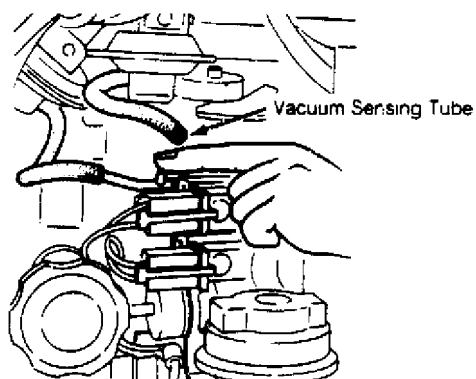

Fig. 2: Checking for Signal
1) Warm up engine to normal operating temperature. Connect a tachometer to engine. Disconnect the vacuum sensing tube (from leading vacuum advance diaphragm to pipe) at pipe. Place a finger over pipe opening and make sure air is not sucked into pipe. See Fig. 2.